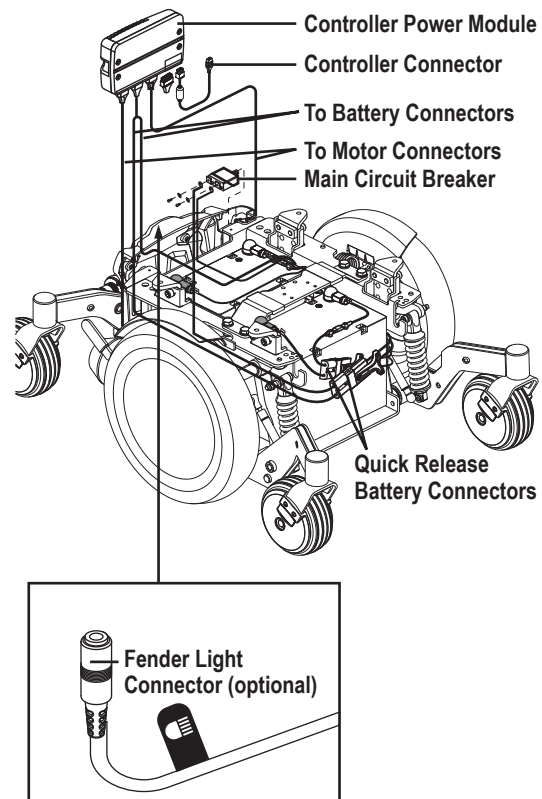

Figure 1. Electrical Components
Your power chair has two main assemblies: the seat assembly and the power base assembly. Typically, the seat assembly includes the armrests, seatback, and seat base. The power base assembly includes two motor/brake assemblies, two drive wheels, four caster wheels, two batteries, and wiring harnesses. **See Q6 Edge 2.0/2.0x/3/2.0HD (page 4) and figure 1.**
The electrical components consist of the controller assembly, the batteries, and the motors. The batteries, motors, and controller power module (if equipped) are located on the power base assembly. The controller is located on the seat assembly. Connectivity between the controller and the motors, batteries, and the battery charger is provided by one or more wiring harnesses. **See figure 1.**
5. Plug the controller connector into the rear of the power base. See figure 1.